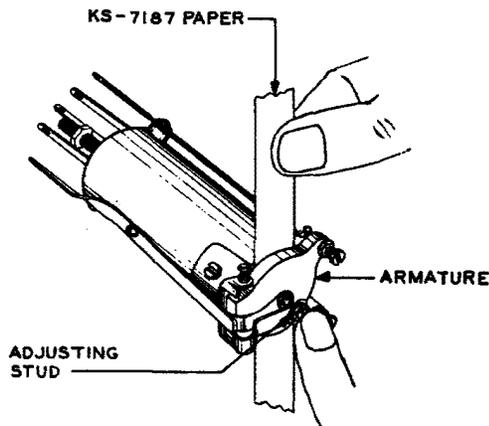

Fig. 48 – Method of Cleaning Armature and Shell on 114- and Similar-type Relays
**7.06 Armature and Shell on 114-, 124-, 126-, 174-, and 198-type Relays:** Insert KS-7187 paper between the armature and shell as indicated in Fig. 48. Operate the relay manually and withdraw the paper. Repeat the operation until all surfaces between the armature and shell have been cleaned and the paper shows no evidence of dirt when it is removed. Use a clean piece of paper for each operation.